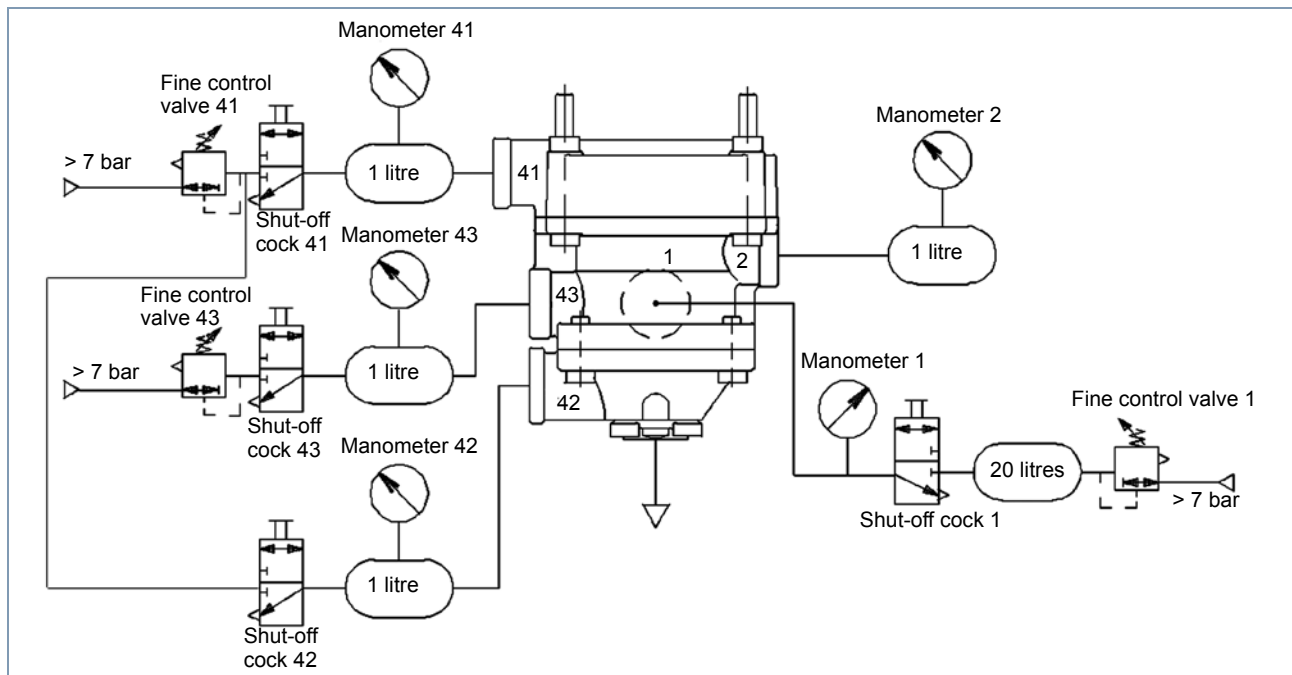

Fig. 3 Test diagram
- Test bench 435 197 000 0 or adequate testing equipment (see fig. 3)
If you do not have test bench 435 197 000 0 you must test the device according to the following diagram (see fig. 3).